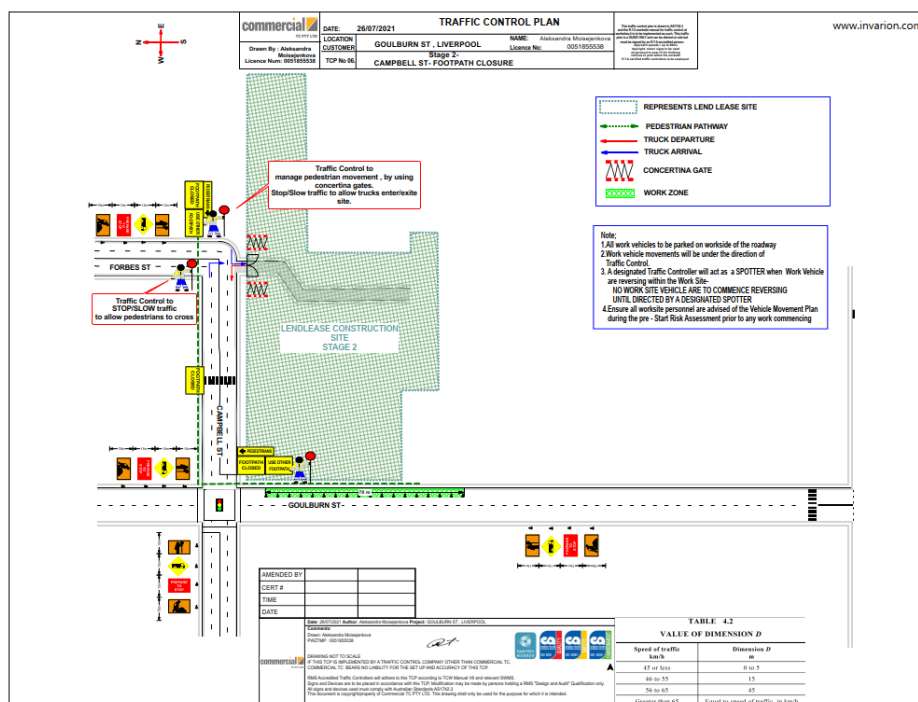

Figure 9 – Stage 2 Pedestrian management during footpath closure
- Pedestrian access and paths of travel: Throughout all activities, pedestrian access, including paths of travel for disabled pedestrian access within the existing hospital campus, will be maintained with details of alternate routes and distances of paths of travel. The public way (outside of any approved construction works zone) must not be obstructed by any materials, vehicles, refuse, skips or the like, under any circumstances, in accordance with Condition 16. Figures 9 & 10 below represent examples of pedestrian footpath routes proposed during closure events throughout Stage 1 & 2 and are further detailed within the CTPMP.
- Loading Zones: A Loading Zone will be established for Stage 1 & Stage 2 on Goulburn St with the approval from Liverpool Council & road occupancy licence by TfNSW, to take up kerbside space to enable trucks to pull up adjacent the Class B hoarding for lifting of materials into the construction site. The loading zone location on each Stage is included within the below figure 9 & 10.